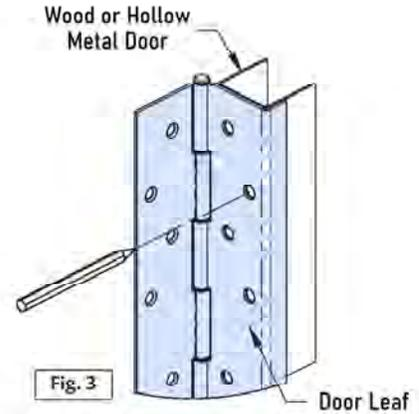

Fig. 3
A. Place hinge door leaf on edge of door. Position top of hinge flush with top of door (Fig 3).